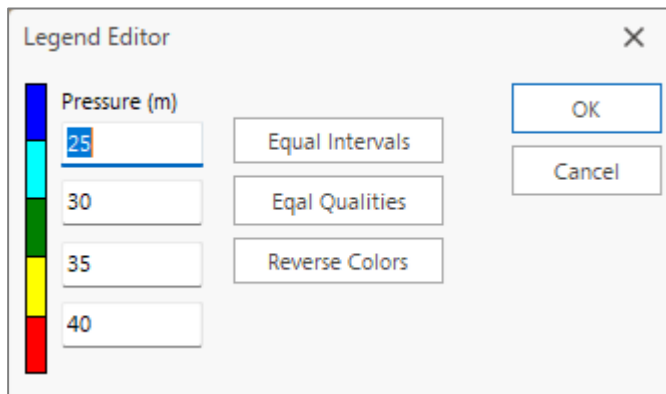

Figure 9-93: Legend Editor
2. Use the Legend Editor dialog form that appears (see **Figure 9-93**) to modify the legend's colours and intervals.
The Legend Editor (**Figure 9-93**) is used to set numerical ranges to which different colours are assigned for viewing a particular parameter on the network map. It works as follows: